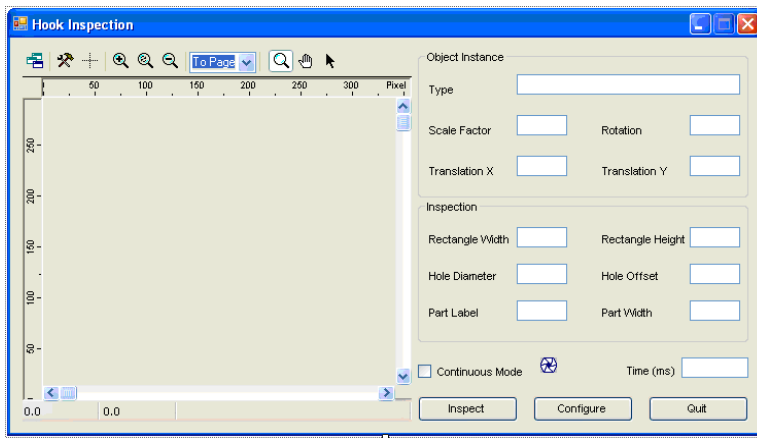

Figure 107 C# Form for Tutorial 6
1. On your application form, add one text box. Name it **PartWidthText** and add appropriate label. Set up your form as illustrated in Figure 107.